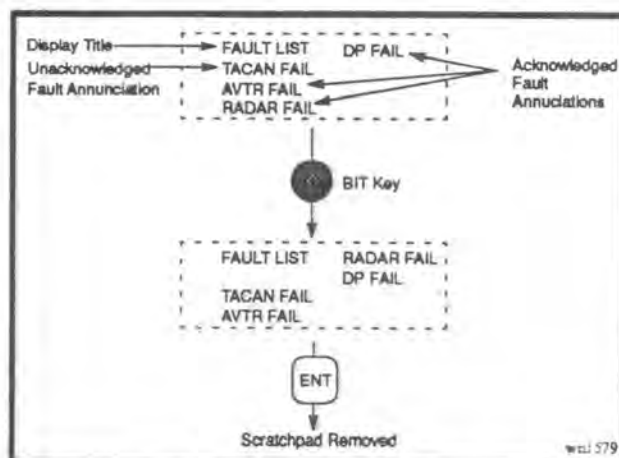

Figure 7-10 Sample Pilot Fault List Scratchpad Display
7.87 Illumination of the BIT key on the UFC and the FAIL message in the HUD and DU, alert the pilot that a new fault annunciation has been added to the pilot's fault list. The nature of the fault (if not already obvious) can be ascertained by calling up the Fault List on the HUD scratchpad. This is accomplished by selecting FAULT on the DTA sub menu (DTA 9). The pilot's fault list (Figure 7-10) displays unacknowledged fault annunciations in line left 2 (L2) and up to six acknowledged annunciations in the remaining lines. When a fault annunciation is first displayed, it is an unacknowledged fault annunciation. A fault is acknowledged by pressing the BIT key on the UFC. Once a fault annunciation is acknowledged, it is pushed down to the next line (L3) in the list. Previously acknowledged faults are also pushed down